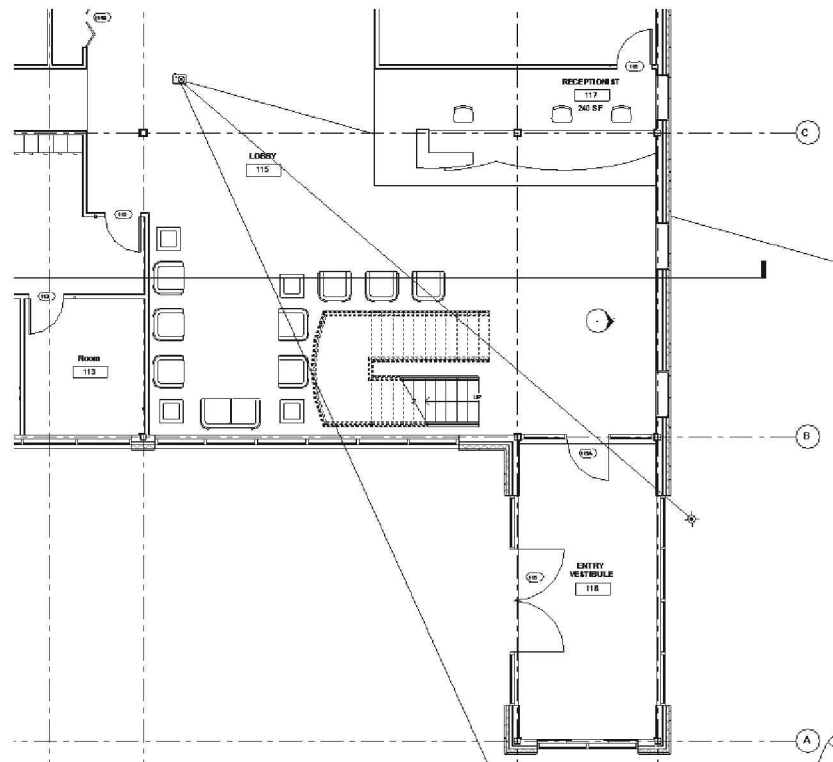

FIGURE 15-4.1 Camera placed – Level 1 view
4. Place the *Camera* as shown in **Figure 15-4.1**.